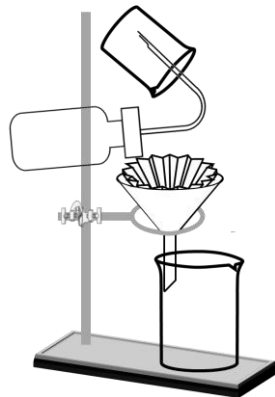

Figure 4
9. Hold Beaker 1 over the funnel tilted with the opening down, and squirt small portions of water from a squeeze bottle to wash the solid residue into the funnel (Figure 4). Note: Try to minimize the added water, as all of the water has to be evaporated, which is time consuming.